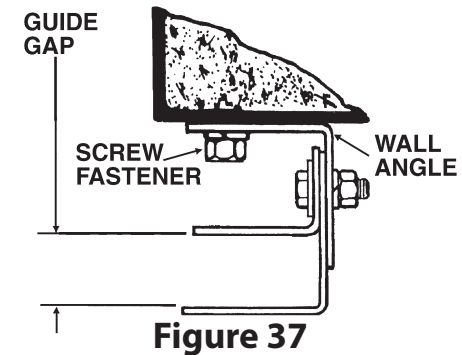

Figure 37
- If guides are flared, then bolt the middle angles and the outside angles to the wall angles, as shown in Figure 37.